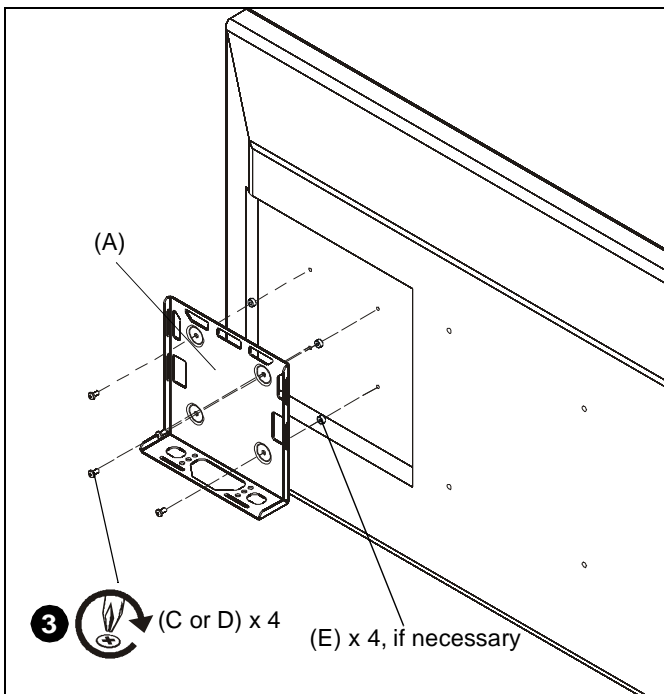

Figure 1
2. Select proper screw length (C or D) and whether spacers (E) are required.
3. Use selected screws (C or D) and spacers (E), if required, to connect media player mount (A) to back of display. (See Figure 1)